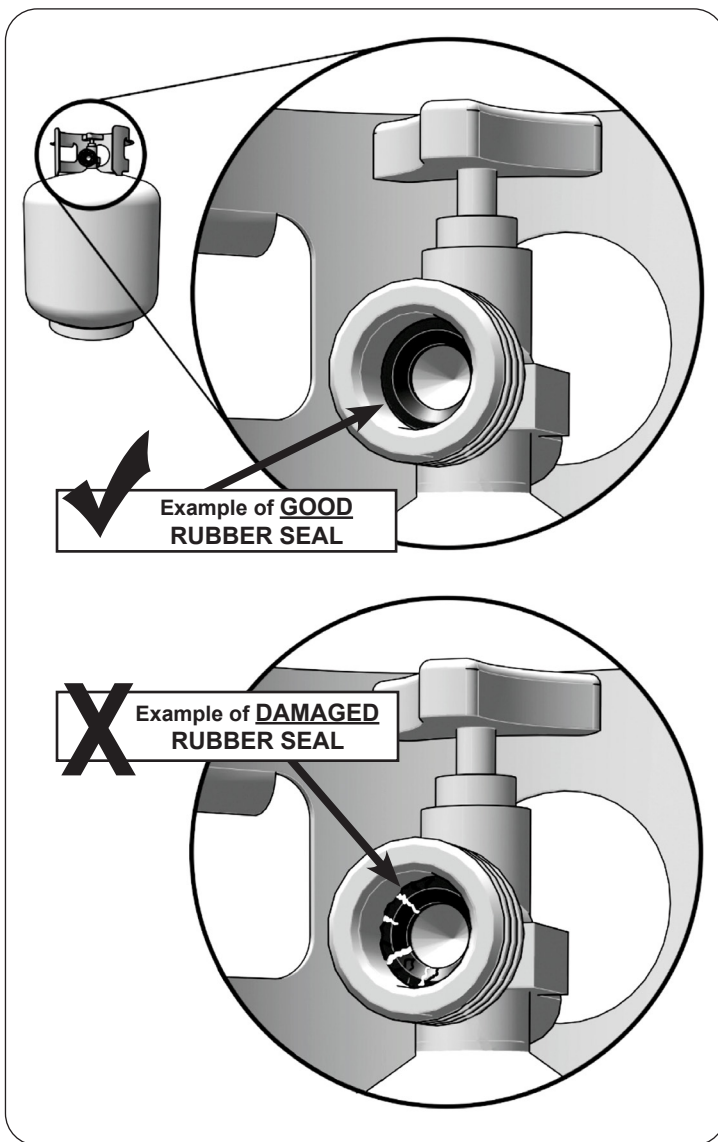

Fig. 11-1 Inspect rubber seal
- D. **CGA 791 connections on LP gas cylinders:** The cylinder face elastomeric face seal element (rubber seal) on these devices could, over time, show marked and visible damage or deterioration that might cause a leak even with the connection tightened. A visual inspection for the seal must be carried out every time a LP gas cylinder is replaced or refilled. Any LP gas cylinder showing signs of damage or deterioration as illustrated in Fig. 11-1, including visible cracks and pitting, must be replaced.